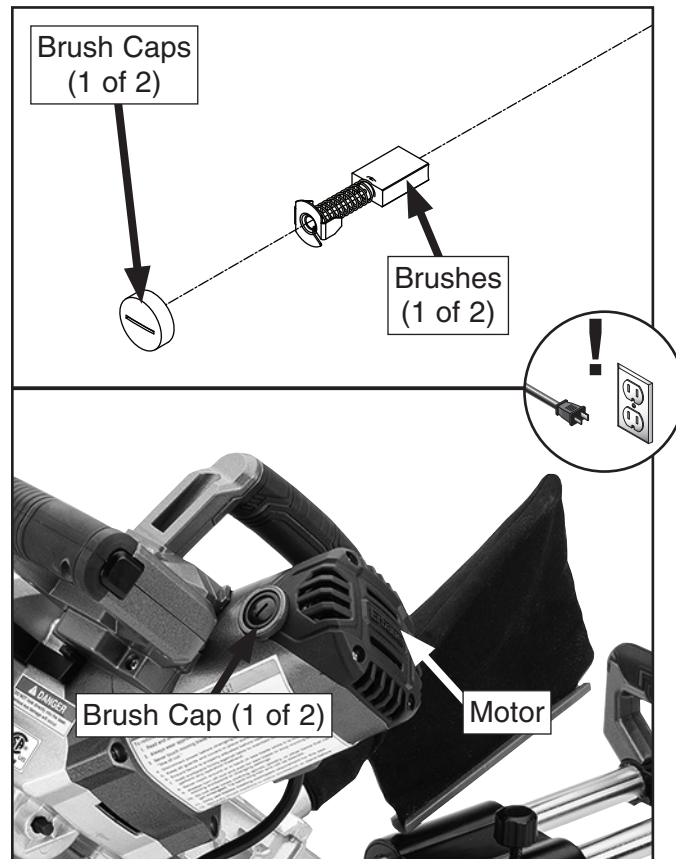

Figure 86. Location of motor brushes and brush caps.
2. Remove brush caps and worn brushes (see **Figure 86**) from motor.